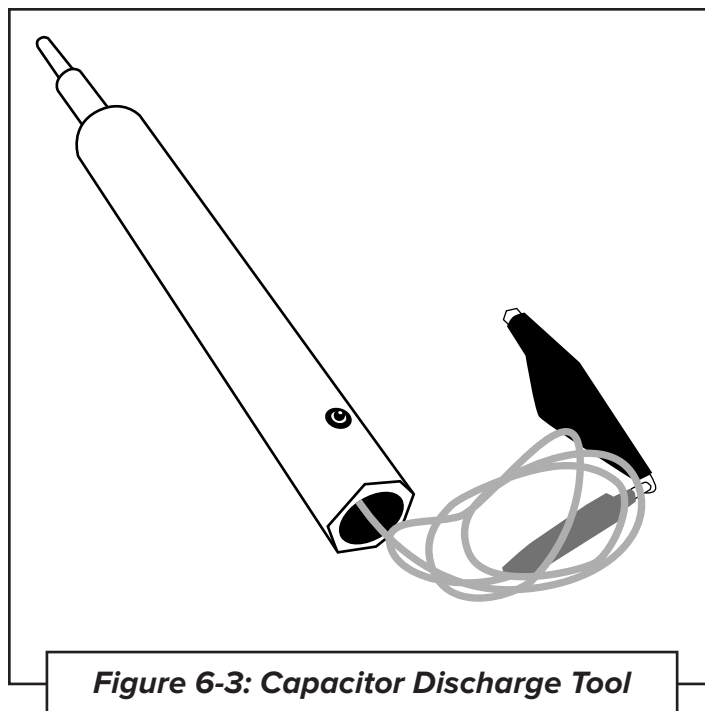

Figure 6-3: Capacitor Discharge Tool
3. Discharge any residual electrical charge using an inexpensive capacitor discharge tool. See **Figure 6-3.**